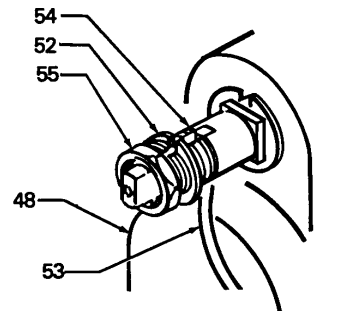

Figure 7
- c. Wrap the insulation tubing (E) around the hose connections, overlapping at the seam. See Figure 7. Wrap the tape (F) continuously around the tubing, beginning and ending about 2 inches (51 mm) past the slit in the insulation.